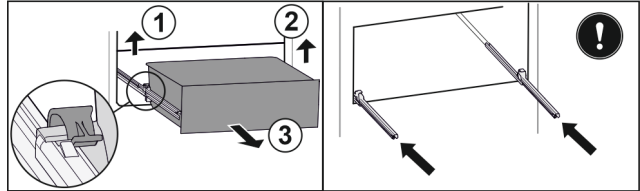

Fig. 134
- ▶ Lift left clamp and simultaneously pull drawer forwards on the left. Fig. 134 (1)
- ▶ Lift right clamp and simultaneously pull drawer forwards on the right. Fig. 134 (2)
- ▶ Remove drawer to the front. Fig. 134 (3)